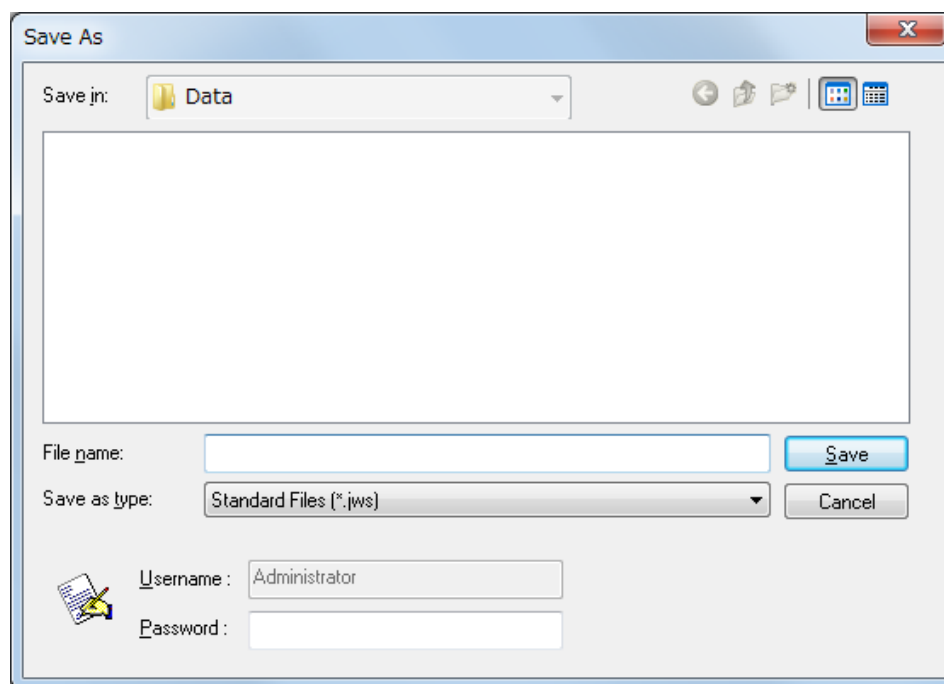

Figure 4.11 [Save As] dialog box
- (1) Select [Save As...] from the [File] menu in the [Spectra Analysis] program to display the dialog box in Fig. 4.11.